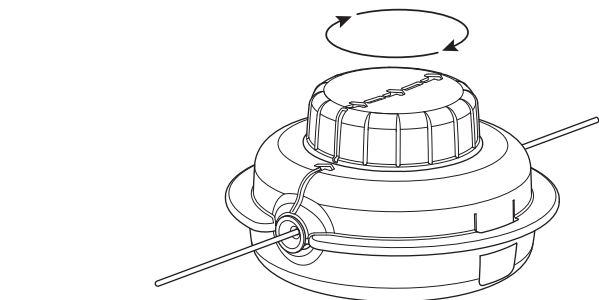

Fig. 18
5. Turn the bump knob clockwise to wind the line until about 5 inches (12.7 cm) protrude from each side of the cutting head (Fig. 18). **DO NOT** push the bump knob down while winding the line.